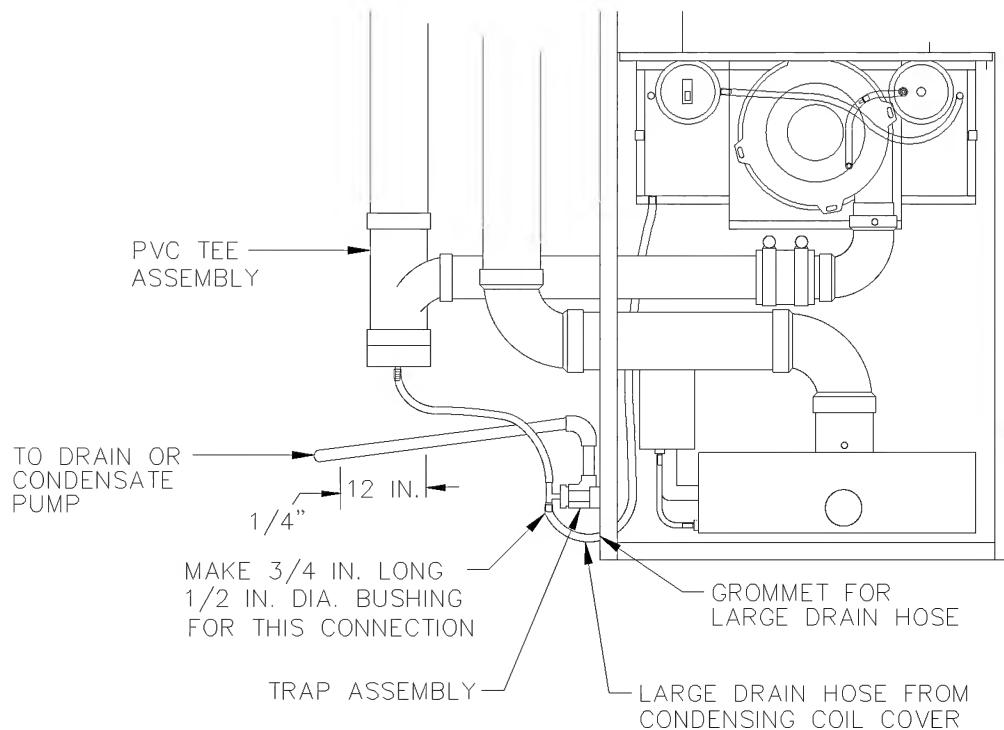

Figure 14
4. Measure the small drain hose (1/2" o.d. clear tubing) provided and remove any extra length, making sure that the hose has sufficient length not to kink or otherwise be restricted once installed. Attach the small drain hose (1/2" o.d. clear tubing) to the other side of the condensate trap tee. On CHB/CDB's, this hose is shipped in the parts package and it will be necessary to attach the other end to the PVC drain tee assembly (see Figure 14). Use the red clamp(s) provided in the parts package to secure all connections.